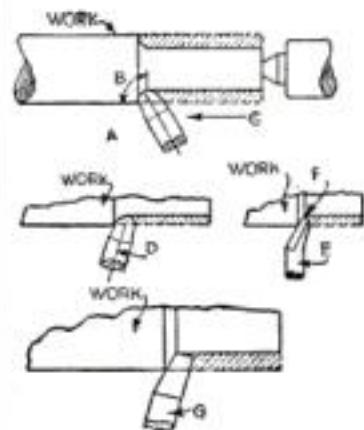

Fig. 7. Good and bad methods in turning
**M**ANY men like to use a round-nose tool for roughing stock, but such tools often chatter because of so much surface in contact with the work. I saw a man in the factory the other day roughing down a bar of stock with a round-nose tool set in the toolpost as shown at *A* in Fig. 7 (page 98). Of course, the arc of contact with the work was a quarter circle, as indicated at *B*. The tool was being fed in the direction *C* and, therefore, the natural pressure tended to throw the tool into the work. The way in which the tool was set and the action produced on it reminded me of a man walking along the sidewalk pushing a cane before him. It is evident from the diagram that this is a very bad way to set up a tool.